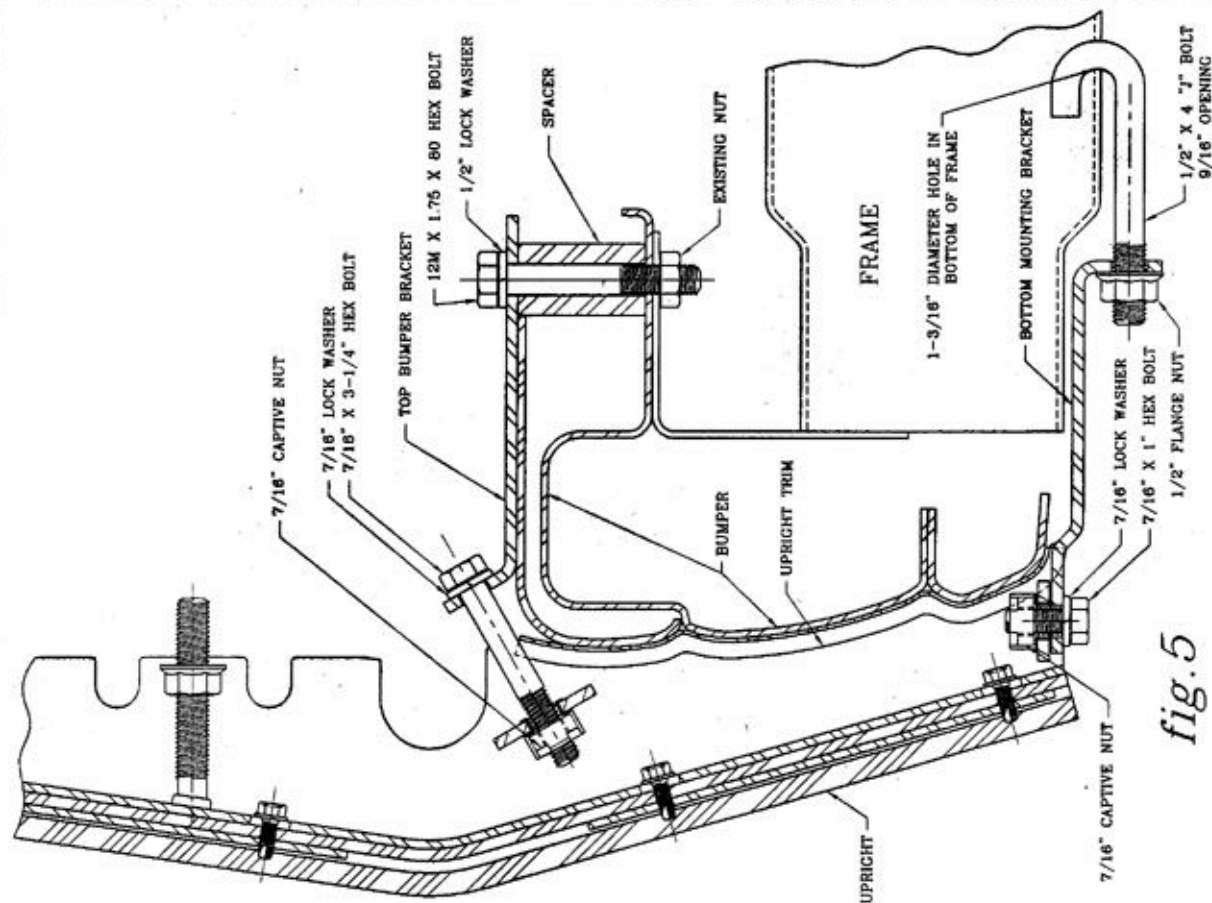

fig. 5
REFER TO FIGURES 5& 6 FOR INSTALLATION STEPS 7-18
7. REMOVE THE TWO (2) TOP BOLTS THAT SECURE THE BUMPER TO THE FRAME
8. INSTALL THE TOP RIGHT HAND (16) & LEFT HAND (17) MOUNTING BRACKETS, SPACERS (18), 1/2" LOCK WASHERS (27) AND 12M X 80mm BOLTS (22) ON THE BUMPER, AS SHOWN IN FIGS. 5 & 6.
9. INSERT THE 7/16" X 3-1/4" HEX BOLTS (23) AND 7/16" LOCK WASHERS (28) INTO THE HOLES IN THE TOP MOUNTING BRACKETS.
10. INSTALL THE FOUR (4) RUBBER TRIM CHANNELS (21) ON THE BOTTOM OF THE UPRIGHTS.
11. SET THE GRILL GUARD UP TO THE FRONT BUMPER AND MAKE SURE THE BOLTS (23) IN THE TOP MOUNTING BRACKETS LINE UP WITH THE CAGE NUTS (15) IN THE GRILL GUARD UPRIGHT.
12. REMOVE THE GRILL GUARD AND TIGHTEN THE M12 BOLTS (22) THAT SECURE THE MOUNTING BRACKETS.
15. ATTACH THE BOTTOM MOUNTING BRACKETS TO THE BOTTOM OF THE UPRIGHTS WITH THE 7/16" X 1" HEX BOLTS (24) AND 7/16" LOCK WASHERS (28). FINGER TIGHTEN ONLY. (REFER TO DRAWING FIGS. 5 & 6 TO DETERMINE WHICH BOTTOM MOUNTING BRACKET SYSTEM TO USE.)
16. IF GUARD IS BEING MOUNTED ON A 1/2 TON PICKUP HOOK THE 1/2" X 4" "J" BOLT WITH THE 9/16" OPENING (25) INTO THE 1-3/16" DIAMETER HOLE IN THE BOTTOM OF THE FRAME AND THE HOLE IN THE BOTTOM MOUNTING BRACKET. SECURE WITH A 1/2" SERRATED FLANGE NUT (13). TIGHTEN THE 7/16" X 1" BOLT (24) IN THE BOTTOM OF THE UPRIGHT. IF THE GUARD IS BEING MOUNTED ON A 3/4 TON 4X4 PICKUP, HOOK THE 1/2" X 4" "J" BOLT WITH THE 1-3/8" OPENING (26) OVER THE OUTSIDE BOSS ON THE TOW HOOK INSIDE OF THE FRAME AND THE HOLE IN THE BOTTOM MOUNTING BRACKET. SECURE WITH A 1/2" SERRATED FLANGE NUT (13). TIGHTEN THE 7/16" X 1" BOLT (24) IN THE BOTTOM OF THE UPRIGHT. IF THE GUARD IS BEING MOUNTED ON A 3/4 TON 4X2 PICKUP, USE AN ACC99 BRACKET KIT (29) AND INSTALL THE 7/16" X 4" HEX BOLT AND 7/16" SERRATED FLANGE NUT THROUGH THE 1/2" HOLE IN THE LOWER SIDE OF THE FRAME. HOOK THE BOTTOM FRAME MOUNTING BRACKET OVER THE 4" BOLT INSIDE THE FRAME AND FASTEN TO THE BOTTOM UPRIGHT MOUNTING BRACKET WITH THE 7/16" X 1-3/4" BOLT AND FLANGE NUT. TIGHTEN THE 7/16" X 1" BOLT (24) IN THE BOTTOM OF THE UPRIGHT.
17. CHECK THAT THE GRILL GUARD IS CENTERED ON THE BUMPER AND THE TOP MOUNTING BRACKETS ARE IN THE PROPER POSITION. (THE TOP BOLTS SHOULD BE PERPENDICULAR TO THE BACK OF THE UPRIGHT AND NOT AT AN ANGLE.) TIGHTEN UP THE 12M BOLTS (22) SECURING THE BUMPER AND MOUNTING BRACKETS.